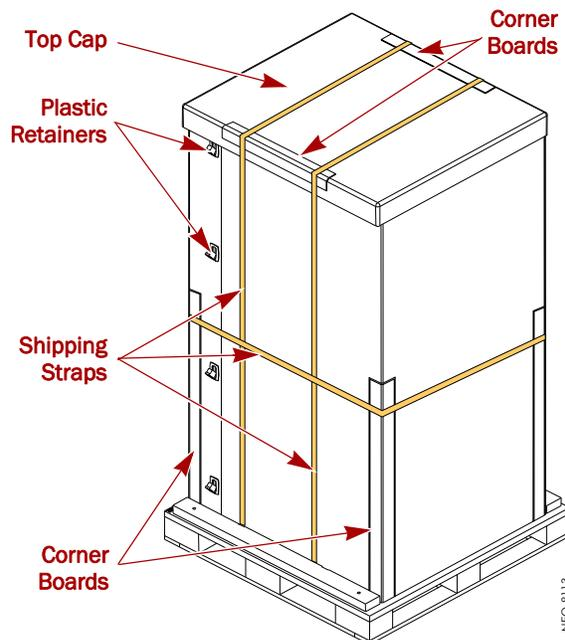

Figure 2-2: Library Packaging Components
2. Remove the outside packaging (Figure 2-2):